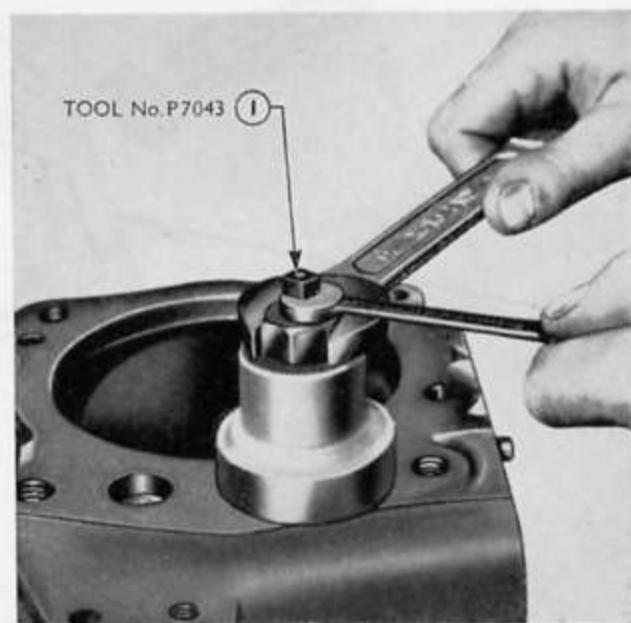

Fig. 4
7. **Withdraw the reverse idler shaft,** using Tool No. CP.7043. Should this tool not be available locate a nut, a flat washer and a sleeve on a $\frac{5}{16}$ in., 24 U.N.F. threaded bolt, screw the bolt into the reverse idler shaft and tighten the nut to withdraw the shaft (see Fig. 4).